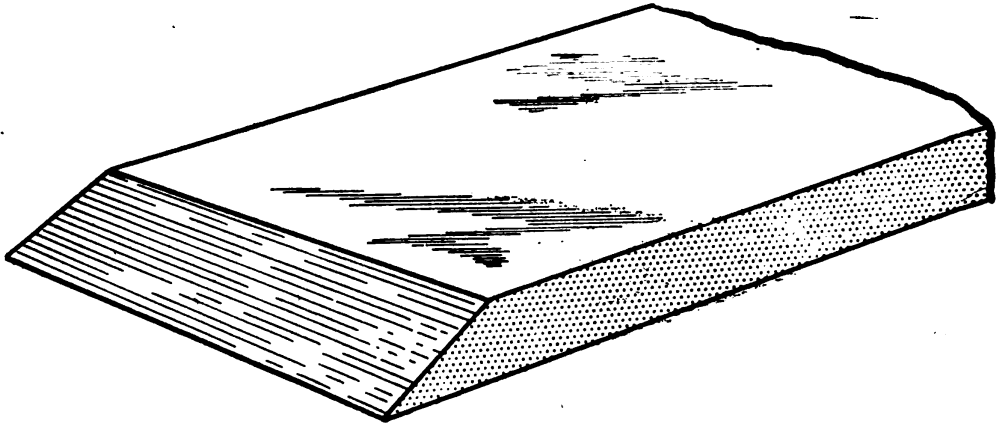
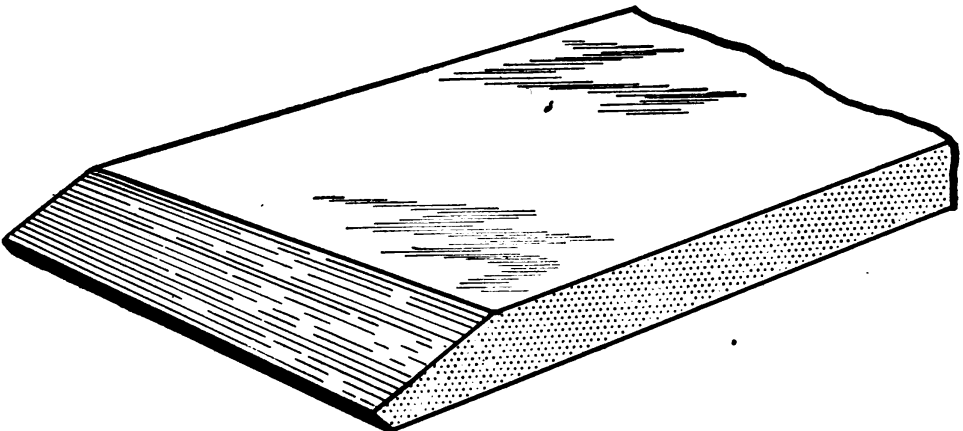

*Figure 98. Sharpening a plane blade.*
*Figure 99. Wire edge (enlarged) on a plane blade.*
(3) To sharpen a plane blade it should be held on an oil stone as shown in figure 98. Held in this position, it is moved around on the stone. The movement may be back and forth, circular, or figure eight, but it should cover the entire surface of the stone so that the stone will wear evenly. The rubbing against the stone should be continued until the wire edge is developed on the back of the edge. (See fig. 99.) The blade is then turned over, laid flat on the oil stone, and moved around in order to bend the wire edge the other way. It must be laid flat or the blade will have a bevel on the back and will not cut properly. (See fig. 100.) The blade is then turned over and rubbed on the beveled edge again. This